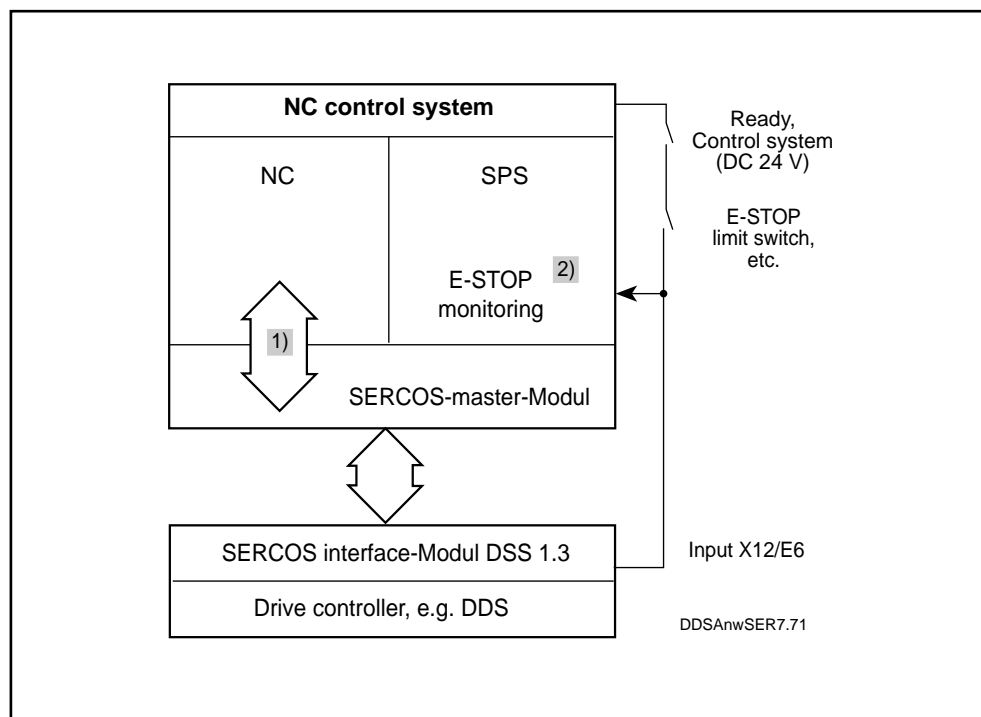

Fig. 7.71: E-STOP function on the DDS 1.3
- where safety measures have to be provided in the event of a failure of communication between the NC part of the control system and the SERCOS master module (see 1) in Fig. 7.71),
- where the E-STOP circuit of the installed PLC is not sufficiently monitored and will therefore not trigger a drive reaction in time (see 2) in Fig. 7.71)